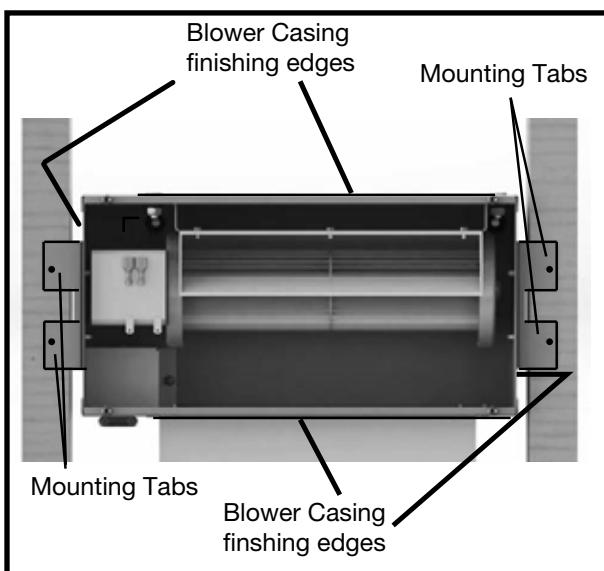

Figure 27: Blower details.
5. Locate the Remote Blower Assembly in the desired wall location, following the specifications listed below and secure to the framing using the mounting tabs on the casing."Figure 27: Blower details."
6. Attach the 10"(254) X 3 1/4"(83mm) Transition Boot to the Remote Blower Assembly and seal with aluminium duct tape. Run 6" diameter approved Type "B" flexible or ridged gas vent pipe (vent pipe is not included with this kit) between the blower and the fireplace. Fasten in place with screws and seal with aluminium foil tape.
9. Drywall and facing material must not cover the opening in the blower assembly. Remove the Face Plate. Cut the drywall so the edges butt up against the outside of the blower casing edges (Figure 27), top, bottom and sides.